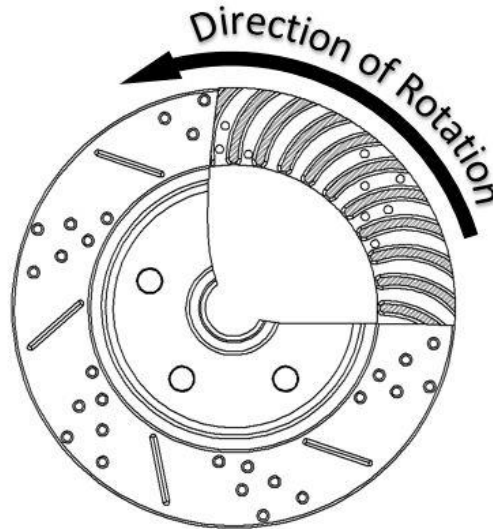

Figure 5 – Proper Rotor Direction
9. Slide the rotor onto the spindle. The inner wheel bearing and grease seal should be installed at this point. Use Figure 5 below to determine the proper Driver or Passenger side rotor placement.